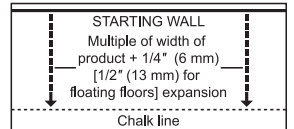

Figure 6
- In at least two places, at least 18” (46 cm) from the corner, measure out equal distance from the starting wall (Figure 6) and snap a chalk line. The measurement must be the sum of the width of the flooring plus an additional 3/8” (9.5 mm) to allow for 1/4” (6 mm) expansion space and the width of the tongue. Allow 1/2” (13 mm) expansion when installing floating floors.